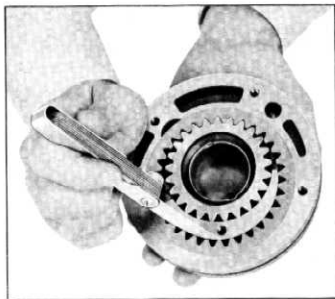

Fig. 102—Clearance Crescent to Internal Gear
- b. Clearance between internal gear and crescent should be .003"-.009" (fig. 102).